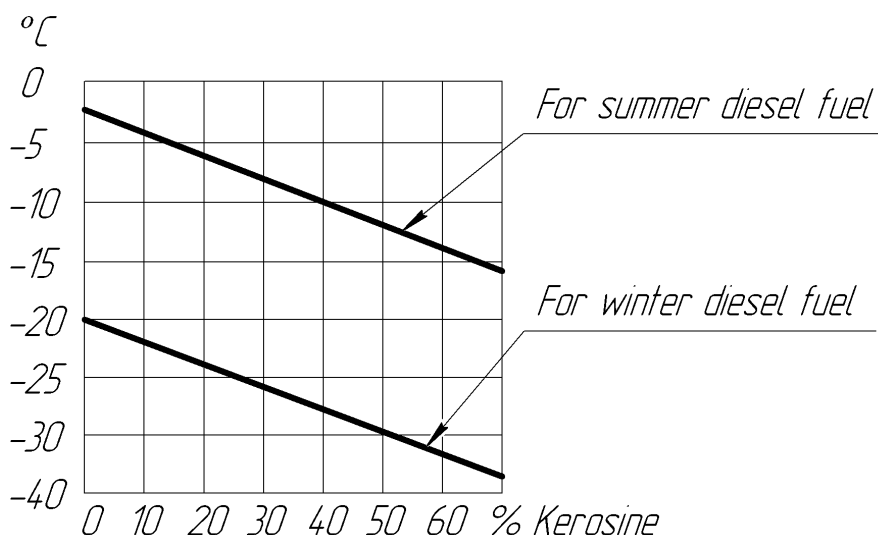

Figure 10 - Amount of kerosene mixed with diesel fuel, depending on the ambient temperature.
10.4 Reliable operation of heater depends on the type of fuel used. Type of fuel should be in accordance with GOST 305-82, depending on the ambient temperature (see Table 10.1). May be used and the mixture of fuel according to Figure 10.